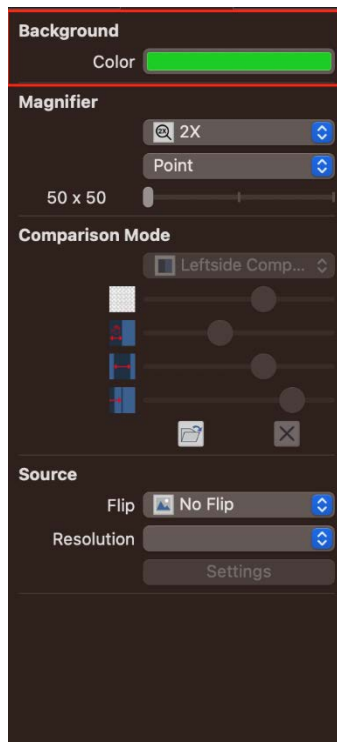

Figure 5-42 Background settings
1. Background setting, as shown in Figure 5-42: